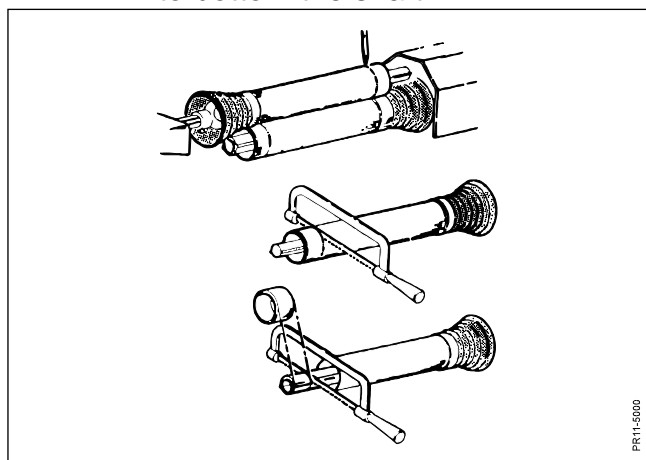

Fig. 2-3
**Fig. 2-3** Fasten the PTO drive shaft half parts to PTO and PIC, respectively, when these are at the same horizontal level and opposite each other (the shortest distance on this machine).